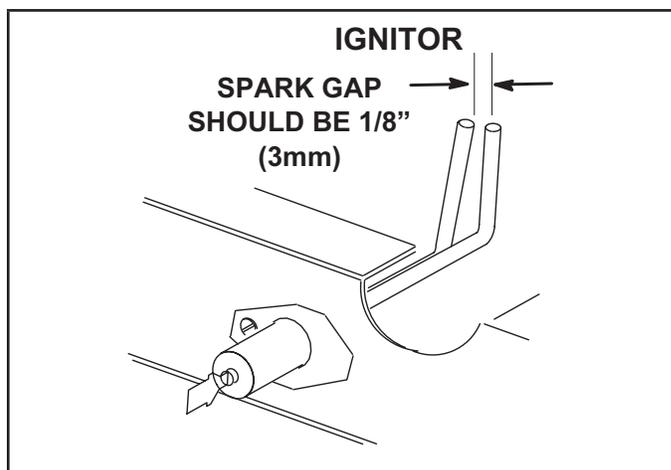

FIGURE 26
- 4 - Locate the ignitor under the left burners. Check ignitor spark gap with appropriately sized twist drills or feeler gauges. See FIGURE 26.